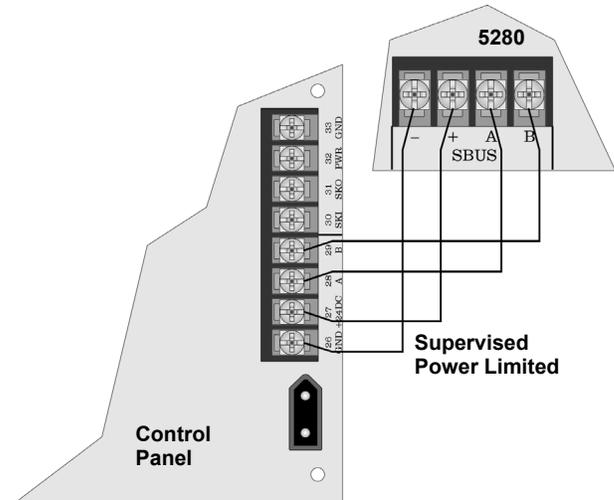

Figure 2: SK-5280 Connection to the Control Panel
Wire the SK-5280 as shown in Figure 2. Maintain a physical separation of one-half inch or more between field wires and connection points to prevent damage from transients.
3. Connect the SK-5280 to the SK-5208 control panel as shown in Figure 2.
4. Connect the SK-5280 to the SK-5208 control panel as shown in Figure 2.